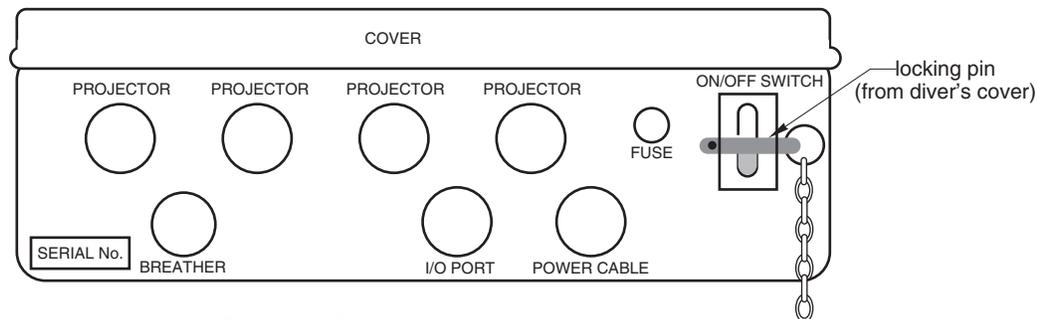

Figure 4. Bottom view of transmitter
WARNING: Before a diver enters the water within 150 m (500') of a dB Plus II™ system, **always turn the power switch to “OFF” and secure it in the “OFF” position with the locking pin attached to the diver’s cover (see Figure 4). In addition, the high visibility diver’s cover must be securely fastened over the transmitter, signaling the presence of a diver in the water. The pin and cover shall remain in place until the area is clear of divers.**
The dB Plus II™ transmitter is protected by a 8 amp AG fuse. If the power cable leads are mistakenly reversed or the transmitter is inoperative, check for a blown fuse. The fuse is located in a drip-proof holder on the bottom panel of the transmitter (see Figure 4).
- Check for a blown transmitter fuse. Replace the blown fuse with a new 8A fuse (see Figure 4).